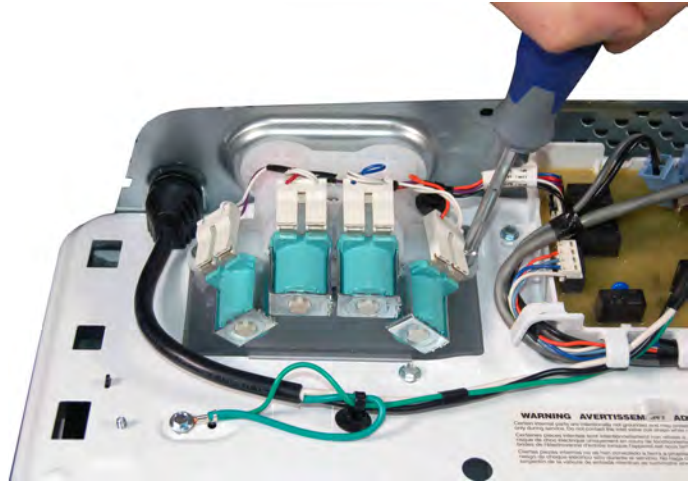

Figure 2
6. Using a 1/4" nut driver, remove the two (2) hex-head screws (one on each side) securing the water inlet valve to the top panel of the washer. (See Figures 2 and 3.)